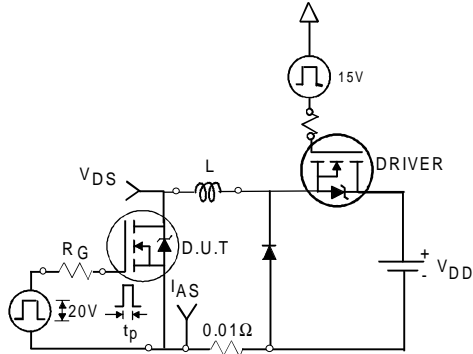

Fig 12a. Unclamped Inductive Test Circuit
3. Equation below based on circuit and waveforms shown in Figures 12a, 12b.
- ④ Pulse width $\leq 400\mu\text{s}$; duty cycle $\leq 2\%$.
- ⑤ C_{OSS} eff. is a fixed capacitance that gives the same charging time as C_{OSS} while V_{DS} is rising from 0 to 80% V_{DSS} .
- ⑥ Calculated continuous current based on maximum allowable junction temperature. Package limitation current is 75A.
- ⑦ Limited by T_{Jmax} , see Fig.12a, 12b, 15, 16 for typical repetitive avalanche performance.
- ⑧ This is applied to D²Pak, when mounted on 1" square PCB (FR-4 or G-10 Material).